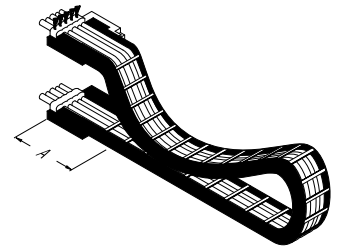

Fig. 2
- For long, sliding energy chains, fasten only at the moment compensator (→ Fig. 2).